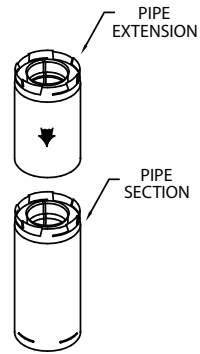

Figure 15
- (1) If exact lengths or distances must be met between Elbow offsets or elsewhere, use the Pipe Extensions to adjust onto standard Pipe Sections (**Fig. 15**).
- (2) If an offset is necessary in the attic